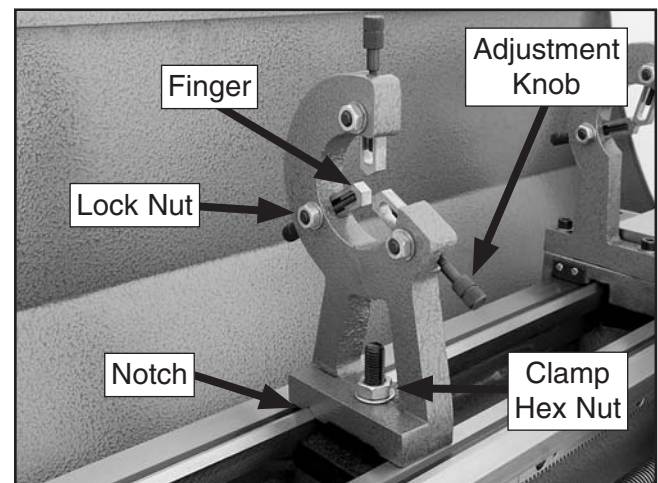

Figure 30. Steady rest controls.
3. Position the steady rest on the bedway so the triangular notch fits over the rear angled bedway rail, as shown in **Figure 30**, then re-install and tighten the clamp block.